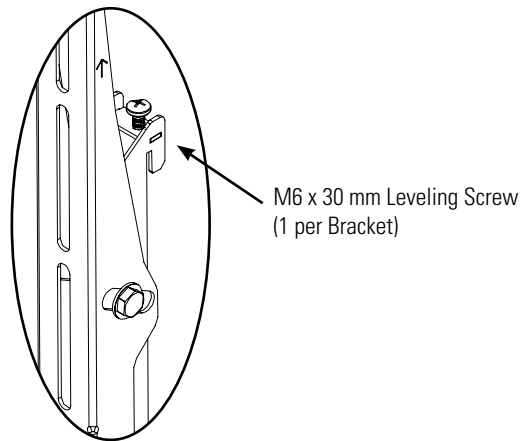

Figure 35. Adjusting the Leveling Screws
1. Loosen both locking screws (Figure 35).